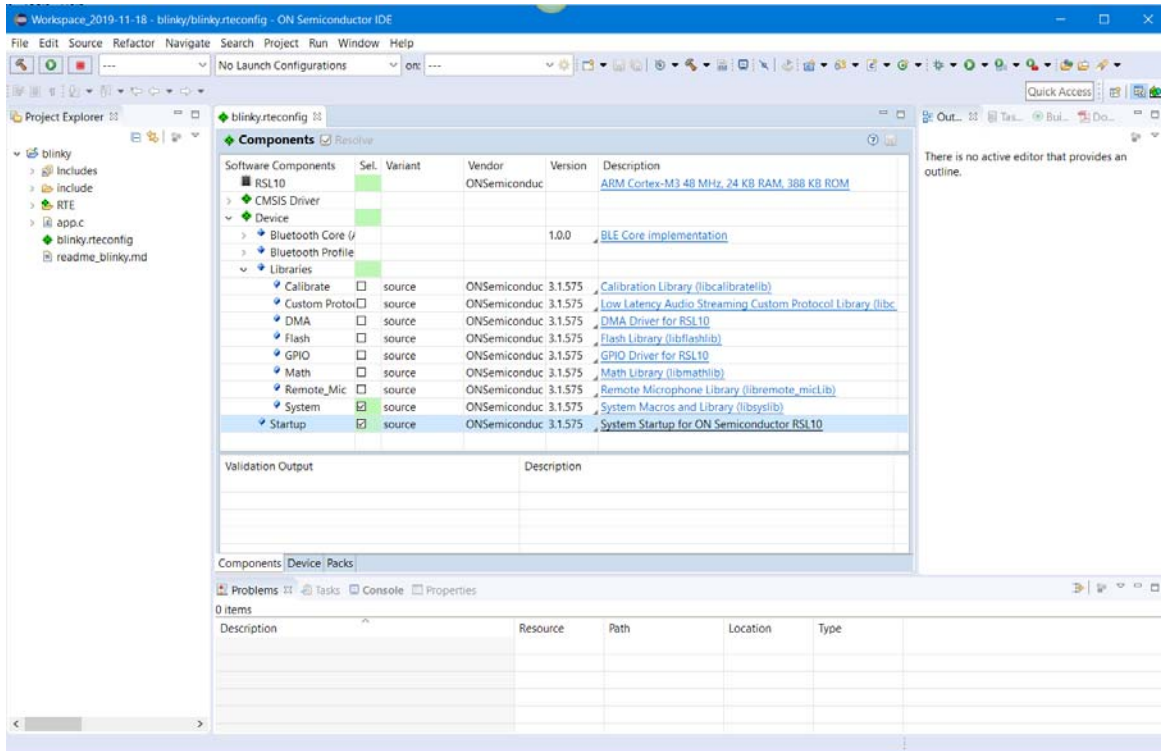

Figure 6. RTE Configuration for the Blinky Example Project in the ON Semiconductor IDE
3. The C/C++ perspective opens and displays your newly copied project. In the Project Explorer panel, you can expand your project folder and explore the files inside your project. On the right side, the *blinky.rteconfig* file displays software components. If you expand **Device > Libraries**, you can see the **System library** (*libsyslib*) and the **Startup** (*libcmsis*) components selected for *blinky* (see Figure 6).